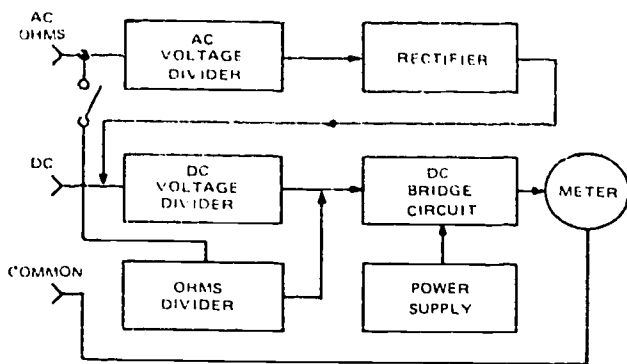

Figure 3-14. VTVM, block diagram.
chart to permit the use of the electronic multimeter as an audiofrequency (AF) level indicator. Refer here to figure 3-14.